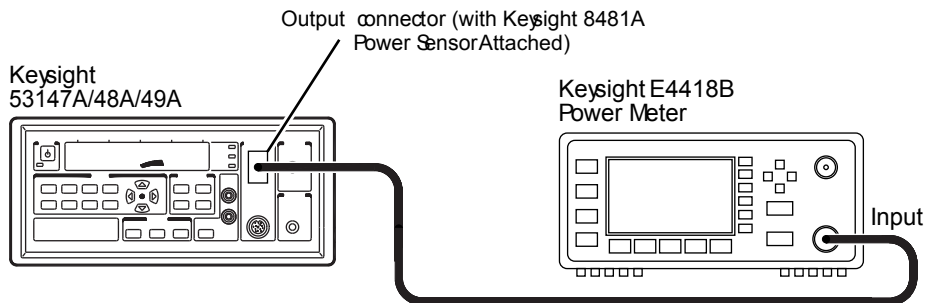

Figure 1-9 Power Meter Reference Level Test Setup
- 6 Disconnect the Keysight 8481A Power Sensor from the Keysight E4418B Power Meter, and immediately connect it to the Power **OUTPUT** connector on the Keysight 53147A/48A/49A (see Figure 1-9).